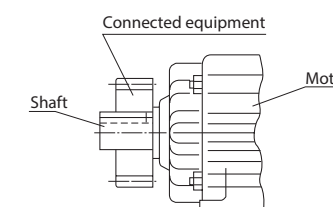
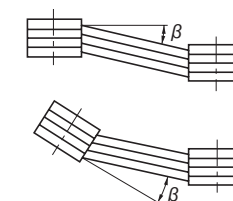

Figure 5-2
Figure 5-3
(2) When using chains, sprockets, or gears
- The working load point of the sprocket or gear should go from the center of the shaft to the motor. (See Figure 5-2)
(3) When using a V belt
- The parallelism, eccentricity β of the two pulleys should be within $20'$. (See Figure 5-3)